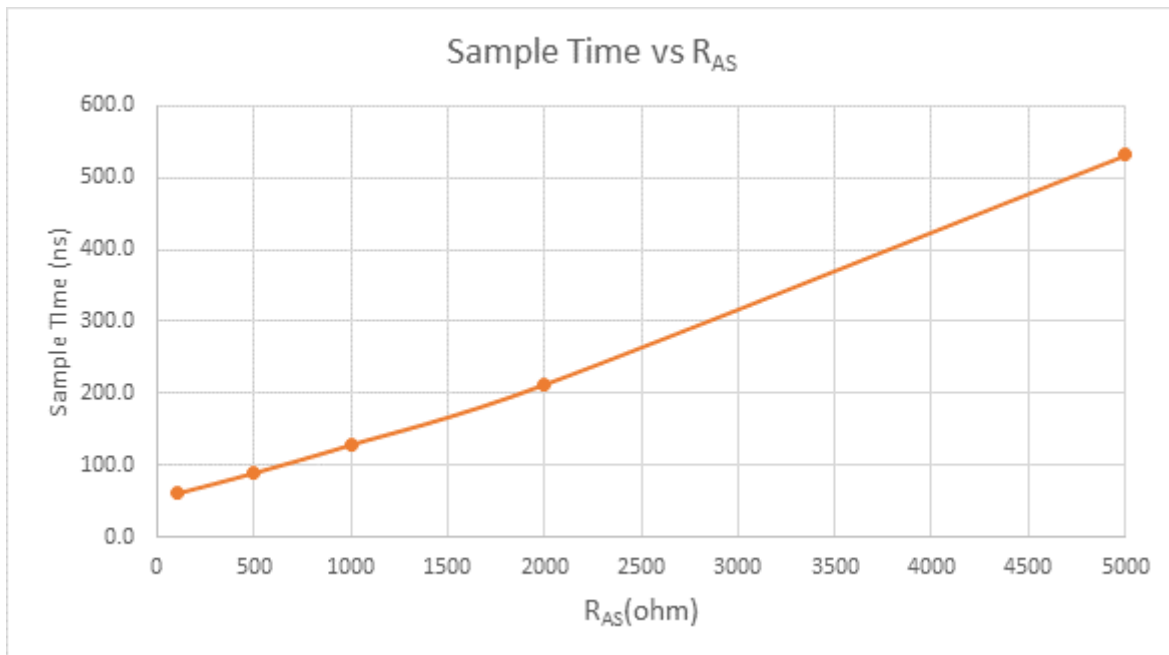

Figure 34. Sample time VS. RAS
4 See Figure 34, "Sample time VS. RAS".
- 4 See Figure 34, "Sample time VS. RAS".